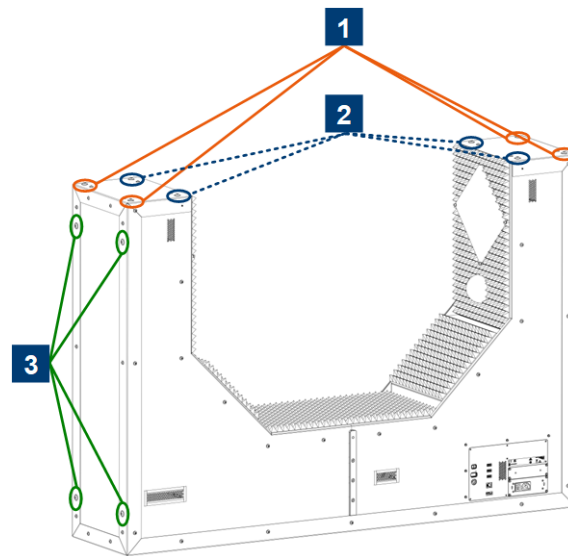

Figure 4-11: Attachment points for lifting equipment
Unscrew the caps of the mounting holes you need (M8X16 screws). Depending on the setup (lying or upright position), use the mounting holes indicated in Figure 4-11 to lift the R&S QAR50. Do not use different mounting holes and always use four mounting holes to distribute the weight equally.
- For the lying position: Use the mounting holes on top of the R&S QAR50. Use either the four outer mounting holes (variant 1 in Figure 4-11) or the inner mounting holes (variant 2 in Figure 4-11).